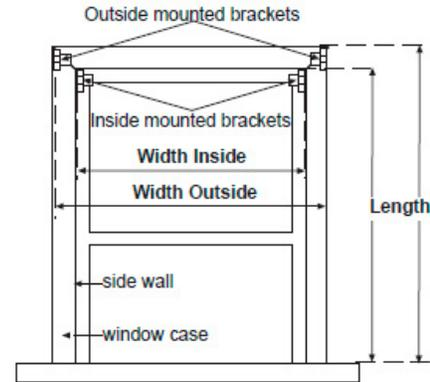

Figure 5. Measurements on a window
Step 1. See Figure 5.
Step 5. Mount the brackets to the window casing according to the marked locations in **Figure 5** (see page 1). **Figure 7** shows the proper bracket placement options. The left and right Skyline brackets are identical so the clutch can be mounted on the left or the right side.